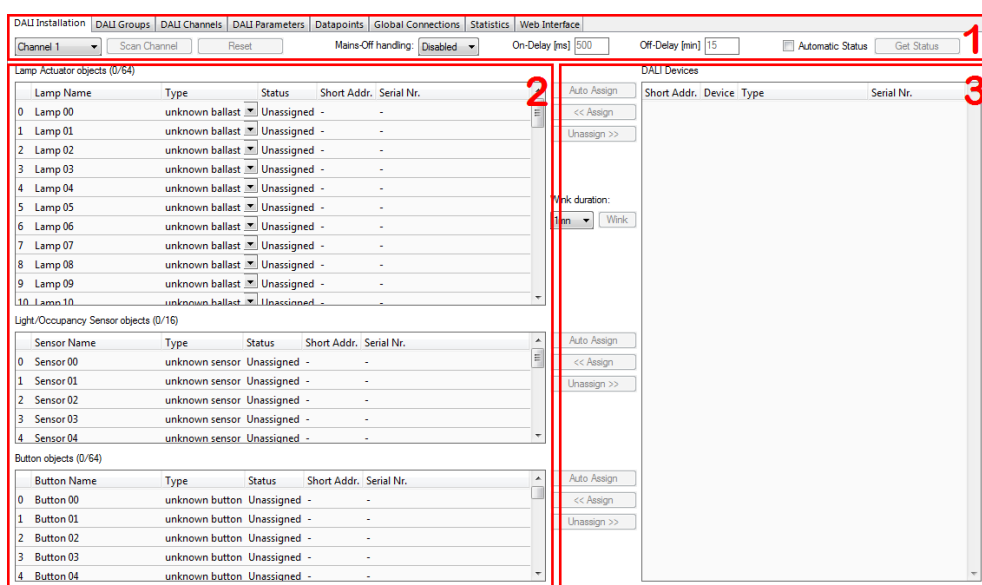
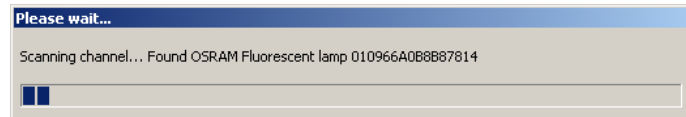

Figure 182: DALI Installation tab.
Figure 183: DALI channel scan progress.
The DALI Installation tab is shown in Figure 182. It is used to scan a DALI channel and assign DALI devices to Lamp Actuator, Sensor objects, and Button objects. The dialog is divided into three sections:
- The channel selection and functions section (number 1 in Figure 182).
- The DALI network database with the device assignment (number 2 in Figure 182).
- The DALI network scan results (number 3 in Figure 182).
- The **Scan Channel** button starts a scan of the DALI channel. When pressing the button a window showing the scan progress will be shown (see Figure 183). After the scan the devices found will be listed in the DALI network scan results section (number 3 in Figure 182) of the DALI Installation tab.